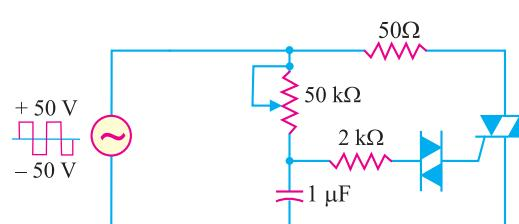

Fig. 21.35
7. If the triac of Fig. 21.35 has 1V across it when it is conducting, what is the maximum current through the 50Ω ? **[0.98 A]**